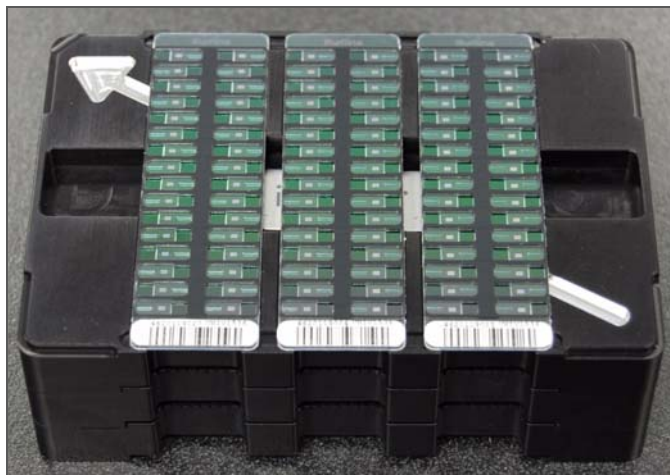

Figure 57 Stacked Robot BeadChip Alignment Fixtures
3. If you did not load the BeadChips near the robot, stack the Robot BeadChip Alignment Fixtures (Figure 57) and carry them to the robot.